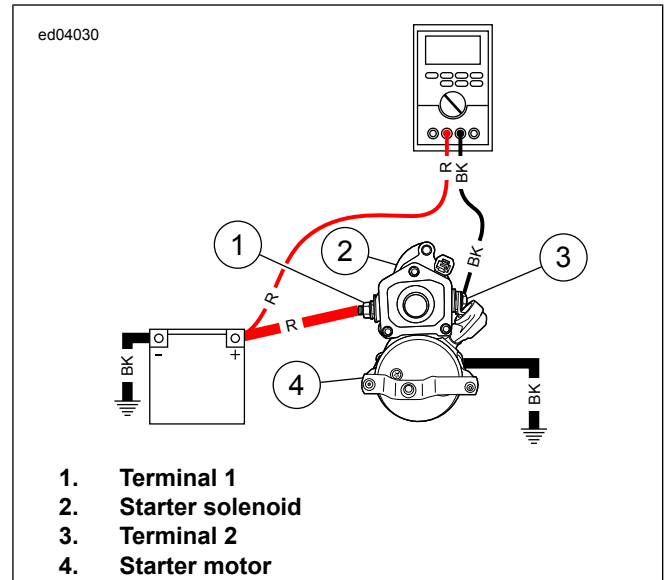

Figure 1-14. To Starter Solenoid Starter Terminal
- a. See Figure 1-14. Set meter to VDC. Connect red meter lead to positive battery post.